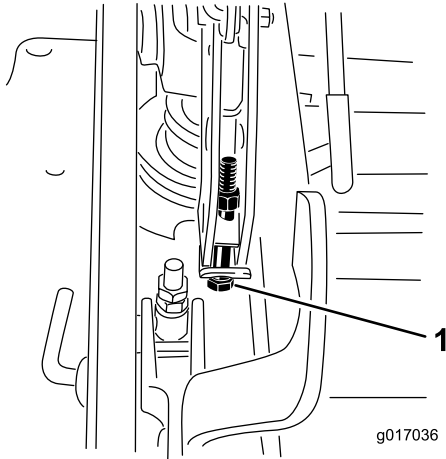

Figure 95
- 13. If the deck is too low, tighten the single-point-adjustment bolt by rotating it clockwise. If the deck is too high, loosen the single-point-adjustment bolt by rotating it counterclockwise (Figure 95).